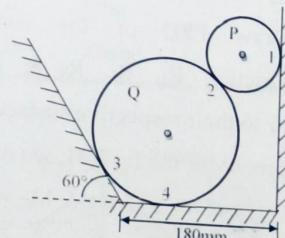

Fig 2.27
- 2) Two cylinders P & Q in a channel as shown in fig 2.27. The cylinder 'P' has a diameter of 100mm & weight 200N and 'Q' has 180 mm diameter & weight 500N. Determine the reaction at all the contact surfaces.